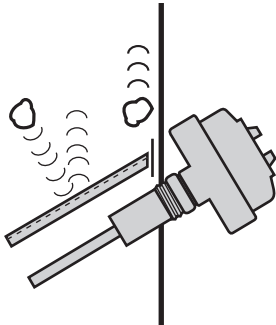

Figure 3
**IMPORTANT:** A deflection plate is required when the probe is exposed to falling material, collapsed arch, or, in the case of a low level switch, when the drag force of the emptying material exceed the specifications. The deflector can be a baffle plate or angle iron (1½" × 1½" × ½") located 4 to 6 inches above the rod. See Figure 3.